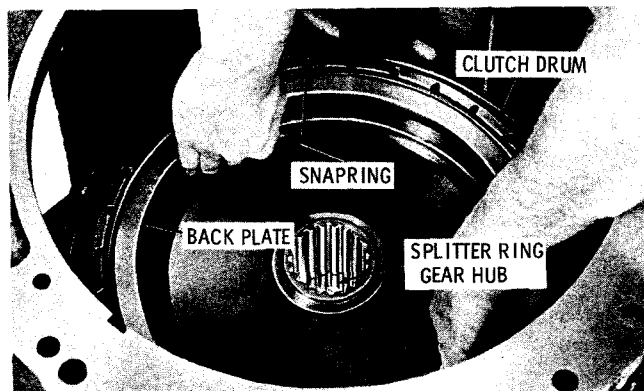

Fig. 7-4. Installing high-range clutch drum
(4) To aid in lifting the assembly, install the back plate and snapping into the high-range clutch drum. Grasp the back plate and lower the clutch drum and related parts into the transmission. Aline the splines of the high-range clutch drum hub with the splines in the splitter ring gear hub (fig. 7-4).